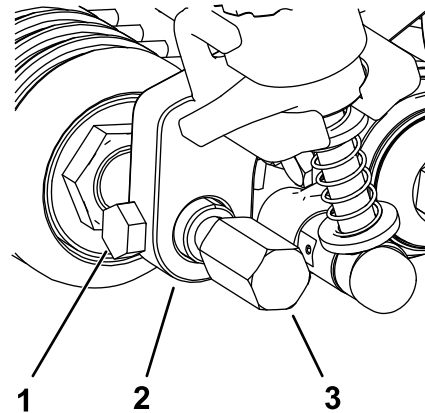

Figure 21
5. Insert and center the front roller shaft between the height-of-cut brackets and secure it with the 2 mounting screws removed from the old height-of-cut brackets (Figure 21).
6. Attach the groomer guards to either side of the front roller shaft (Figure 21).